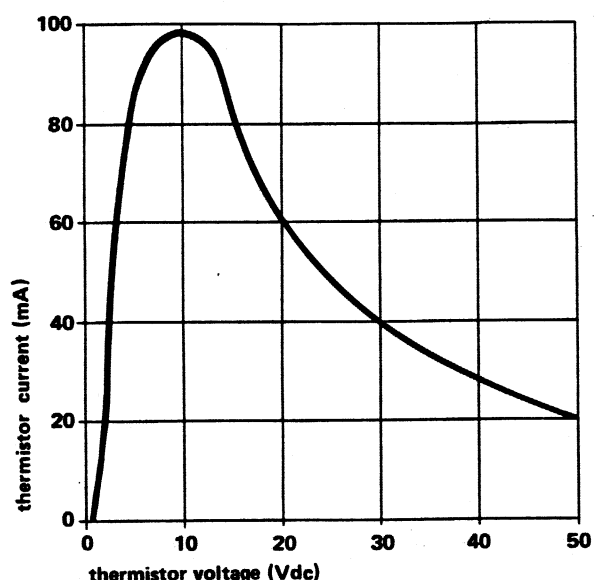

figure 5. Current-limiting curve
2.14 The 7002(A) provides current-limiting circuitry for both the station-side and switch-side loops. This prevents damage both to the 7002(A) and to external equipment, and it also enhances the module's ability to operate in short-loop situations. On the station side, maximum loop current supplied by the 7002(A) is normally limited to approximately 100mA by the module's nominal 400-ohm battery-feed resistance circuitry. On the switch side, maximum loop current (supplied either by the switch or by a switch-side tandem DLL) is also normally limited to approximately 100mA by 200-ohm resistance circuitry in the 7002(A). If, for any reason (e.g., a fault condition), the station-side or switch-side loop current exceeds 100mA, two thermistors on the station side and one thermistor on the switch side of the 7002(A) function automatically to limit loop current to approximately 100mA. Figure 5 shows a current-limiting curve that illustrates the foldback characteristics of each of the 7002(A)'s thermistors. This information, together with other circuit characteristics of the 7002(A), can be used to calculate loop current.